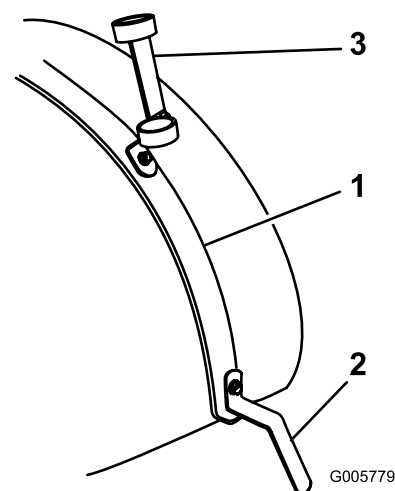

Figure 2
1. Remove the fasteners securing the right side of the front tank strap (Figure 2).
2. Install the hose hook and spray gun bracket as shown in Figure 2, using 2 carriage bolts (5/16 x 3/4 inch) and locknuts (5/16 inch).